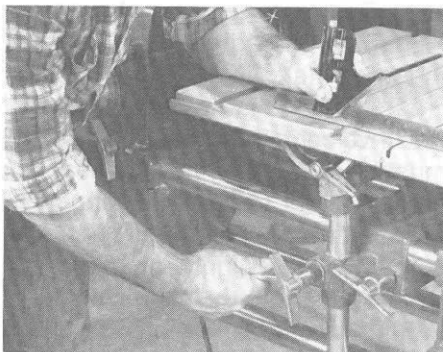

Figure 20. Checking the alignment of the extension table.
b. Using a straightedge to guide you, adjust the height of the worktable so that its front surface is even with the front surface of the extension table. (See Figure 20.) Move the straightedge to the back of the extension table and check that the rear extension table surface is even with the worktable surface. If it's not, shim and adjust the extension table.